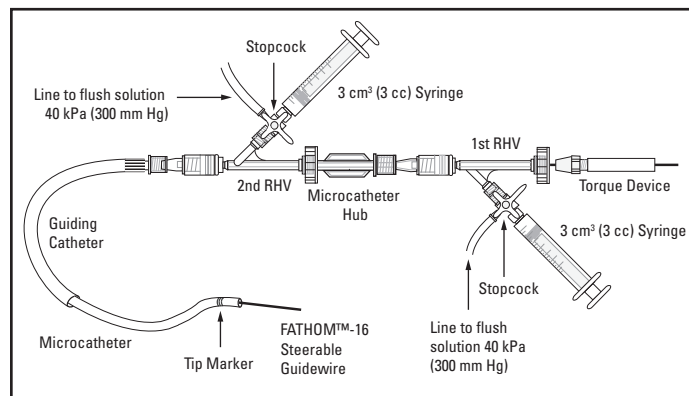

Figure 1. Example of Continuous Flush Setup
The recommended continuous flush set-up is shown in Figure 1.
10. Connect a rotating hemostatic valve (Tuohy-Borst type) to the guiding catheter luer per Figure 1 to continuously flush the guiding catheter with saline (a pressure pack is convenient for this purpose).
2. Carefully insert the microcatheter with the Pre-Loaded guidewire through the RHV into the guiding catheter per **Figure 1**. Tighten the RHV vent cap around the microcatheter to prevent backflow, but allowing some movement through the valve by the microcatheter.
4. Set up a continuous flush using the RHV connected to the microcatheter (reference Figure 1). Ensure the RHV vent cap is closed and flush the microcatheter with Pre-Loaded guidewire.